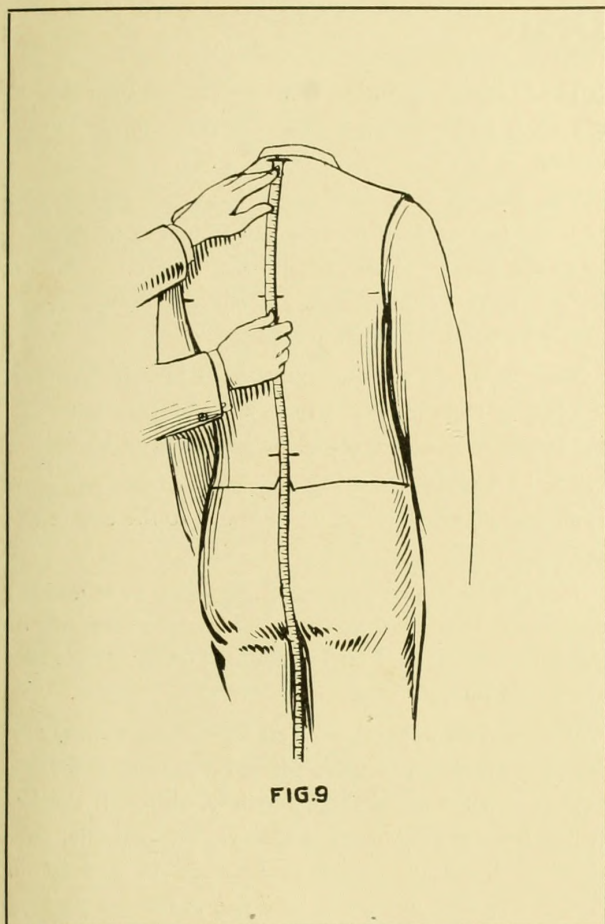

FIG. 9
14. **The Length Measure.**—Place the end of the tape-line at the neck point mark, and measure down to depth of scye, or armhole mark, 9 inches; continue to waist line,  $16\frac{3}{4}$  inches, and to full length desired. (See Fig. 9.)